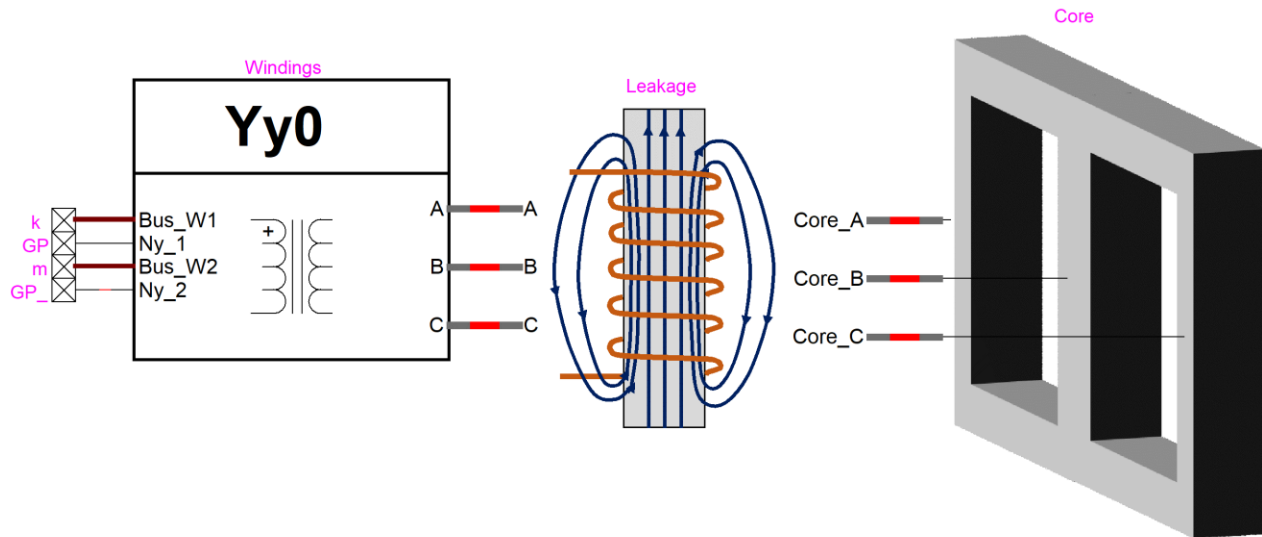

Figure 2: Topological transformer subcircuit for a 2-winding YY0 3-legged core transformer.
- Core type:** topology of the core construction. According to the selection, the Core component of the Topological transformer subcircuit is updated (see Figure 2)